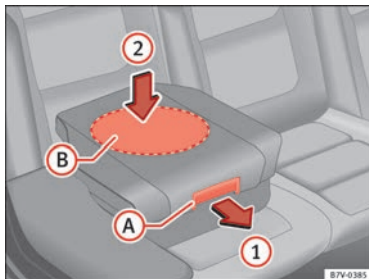

Fig. 33 Integrated child seats, lowering the cushion
- Pull the unlock lever ⇒ Fig. 33 (A) on the cushion in the direction of the arrow ①.
- Push the cushion down through the *central* area (B) in the direction of the arrow ② until it safely engages ⇒ ③. The side supports fold away automatically.
When lowering the integrated child seat, only press on the centre of the cushion ⇒ Fig. 33 ②. Otherwise the cushion could bend and not engage properly.